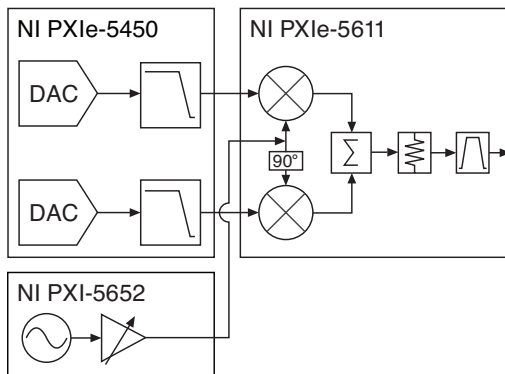
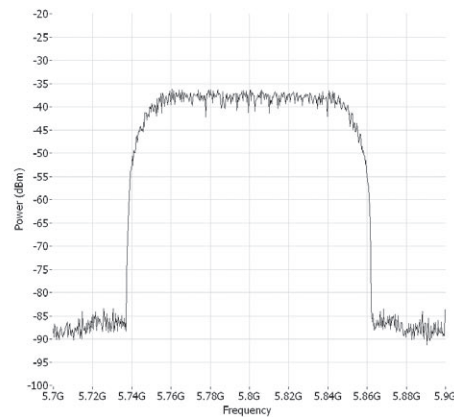

Figure 1. Block Diagram of the NI PXIe-5673
Figure 2. QPSK Signal with Wide Bandwidth
The NI PXIe-5673 uses direct RF upconversion from differential baseband I and Q signals. A block diagram of the system is shown in Figure 1.
As Figure 1 illustrates, the NI PXIe-5673 consists of the NI PXIe-5611 RF upconverter, the NI PXI-5652 RF continuous wave (CW) source, and the NI PXIe-5450 dual-channel arbitrary waveform generator (AWG). The NI PXI-5652 CW source uses a voltage-controlled oscillator (VCO) architecture, enabling frequency tuning times no greater than 6.5 ms. In addition, the NI PXIe-5450 AWG 16-bit digital-to-analog converter (DAC) generates baseband I and Q signals at data rates of up to 200 MS/s. At this sample rate, the generator is capable of producing more than 100 MHz of RF bandwidth. Figure 2 shows a QPSK signal with more than 100 MHz of bandwidth at 5.8 GHz. The signal represented is configured for a symbol rate of 100 MS/s and a root raised cosine filter with an alpha of 0.22.